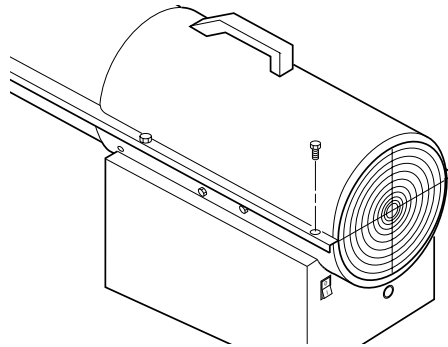

Figure 8 - Upper Shell Removal, SH42 Model
1. Remove upper shell of heater. Remove screws along each side of heater using 5/16" nut-driver (see Figure 8). These screws attach upper and lower shells together.